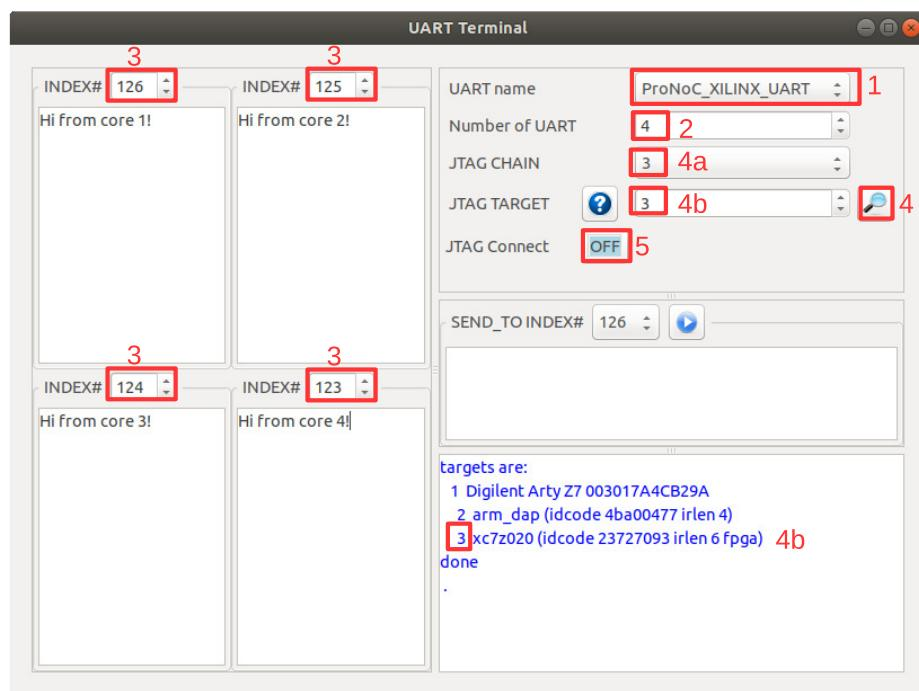

Figure 11.1: Uart terminal snapshot (Xilinx FPGA configuration).
UART Terminal	ProNoC includes an in-built GUI for UARTs terminal. To run the UART terminal run ProNoC and press <code>Ctrl+U</code> . You can also directly run this tool by running following commands in in linux terminal. <code>cd mpsoc/perl_gui/lib/perl perl uart.pl</code> Figure 11.1 illustrates the snapshot of the UART GUI.The following settings are required in order to connect to UART modules:
- (b) For Xilinx FPGAs you need to set the FPGA device target number in the JTAG chain. Figure 11.1 shows an example for Digilent Arty-Z7 XILINX FPGA board. The FPGA device is `xc7z020` which is the 3rd target in jtag chain.